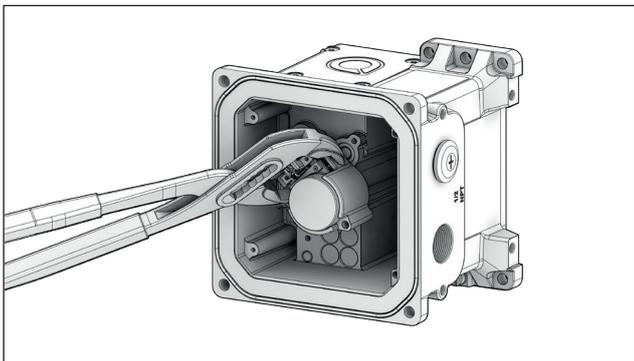

Fig. 98. NDX_511_ and NDX_512_ Pulling out prestage with pliers.
- Pull out the prestage carefully. It is recommended to use pliers to grab the grooves on the sides of the prestage. Be careful not to touch the moving parts of the prestage. (Fig. 98)